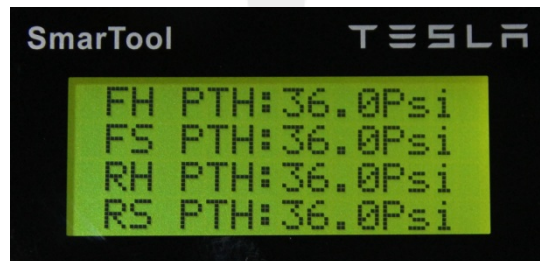

Figure 6
11. Press the down arrow to scroll to Read PTH. Press ENTER. Check that all thresholds display 36.0 PSI (Figure 6).